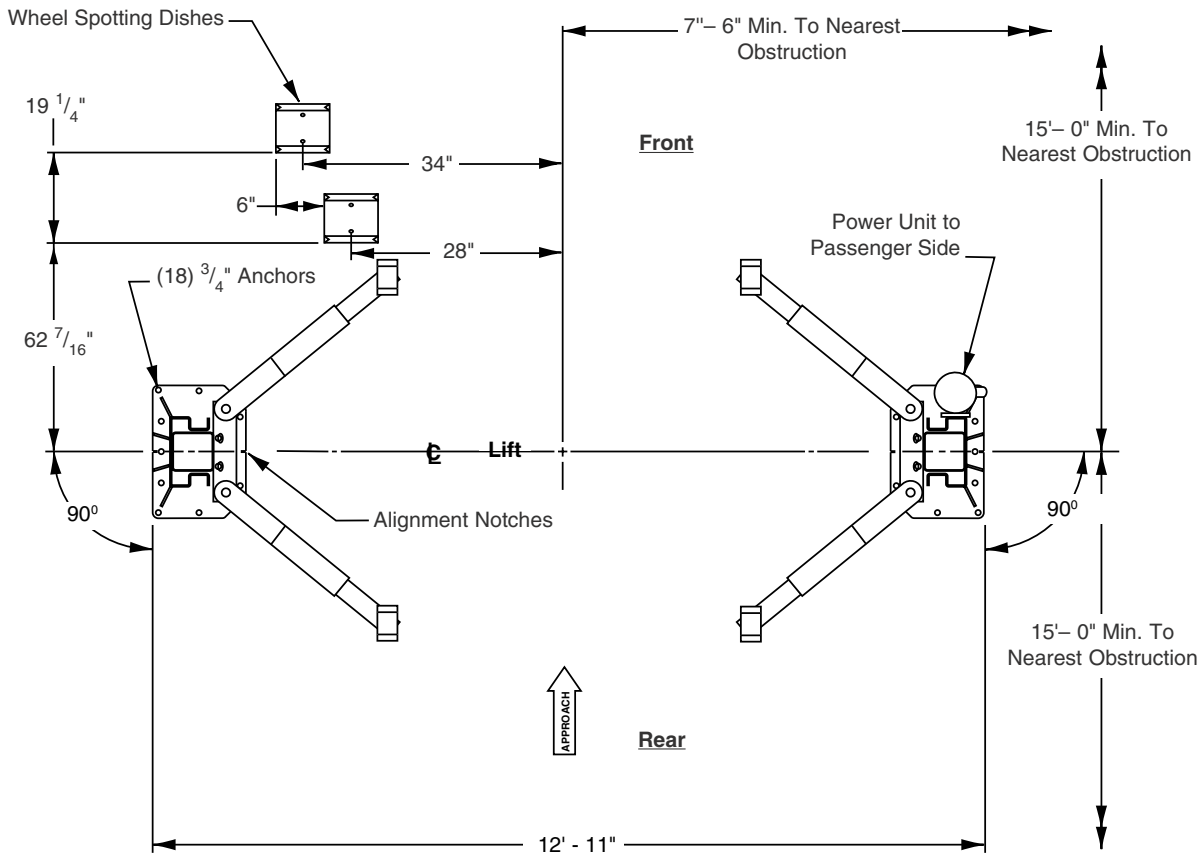

Fig. 1
1. Lift Location: Use architects plan when available to locate lift. Fig. 1 shows dimensions of a typical bay layout.
3. Lift Setting: Position columns in bay using dimensions shown in Fig.1. Place column with power unit mounting bracket on vehicle passenger side of lift. Both column base plate backs must be square on center line of lift. Notches are cut into each base plate to indicate center line of lift.